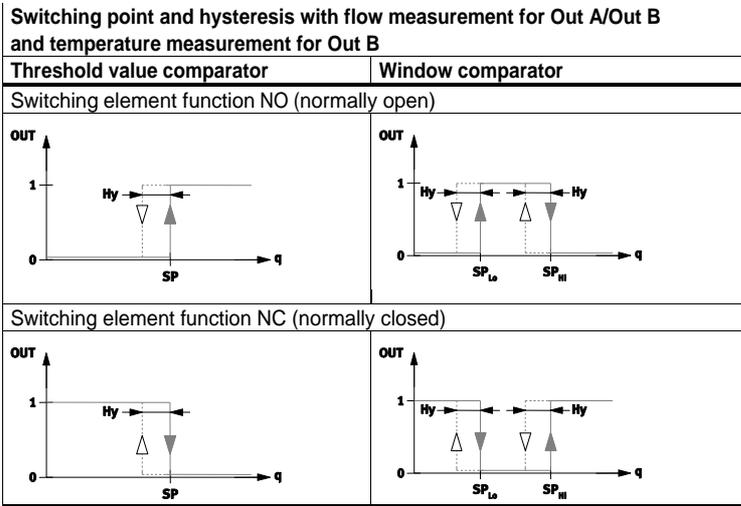

Fig. 29
The switching functions "threshold value comparator" or "window comparator" can be selected independently for switching outputs Out A and Out B. The switching element functions "normally closed" (NC) or "normally open" (NO) can be assigned separately to each switching output → Fig. 29.